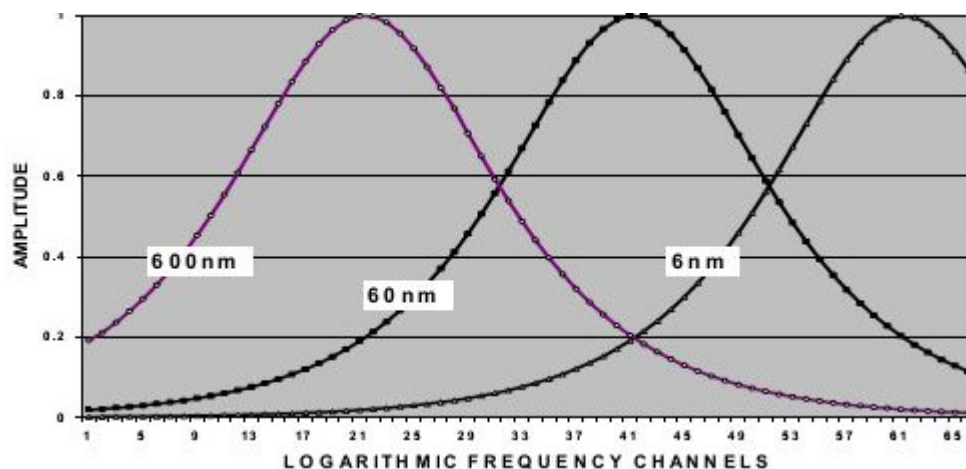

Fig. 3: Logarithmic presentation of the Fourier transformed signal evaluation in frequency space
7. High resolution AND High dynamic range in size: see result on a logarithmic scale in Fig 3. It allows a good resolution and a high dynamic range in size. Application examples demonstrate that.
Displayed in a logarithmic frequency scale the contribution from different sizes to the detector signal looks quite simple (Fig. 3).